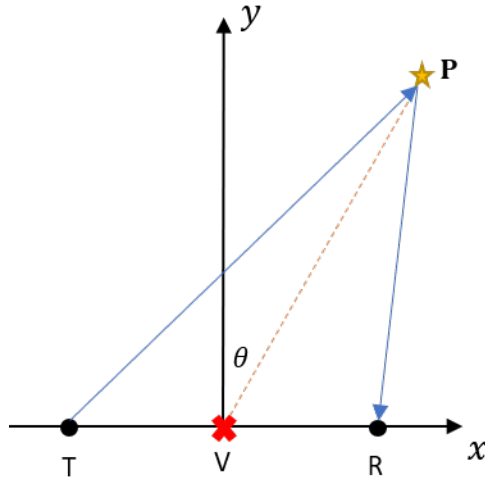

Figure 2: Geometry of the PCA.
Let T be the position of the transmitter and R the position of the receiver as in Figure 2. This configuration is called bistatic since transmitter and receiver are located in different positions in space.
3. Compute the true angle of arrival using simple geometry (The angle θ in Figure 2). This number will be useful for the validation of the DoA procedure.
- A figure of the simulated geometry with the elements of the array and the target as in Figures 2 and 3;